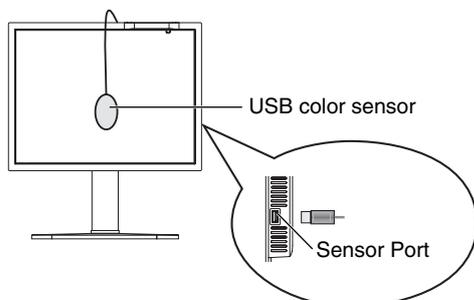

Figure S.1
1. To show the CALIBRATION menu, plug-in the USB color sensor to the sensor port (**Figure S.1**)*¹ or select STAND ALONE CALIBRATION in the advanced menu (page 25).
4. The procedure will ask for the USB color sensor to be placed on the center of the display panel (**Figure S.3**). Tilt the display panel approximately 5° backward and place the USB color sensor in the center of the display panel (**Figure S.1**).